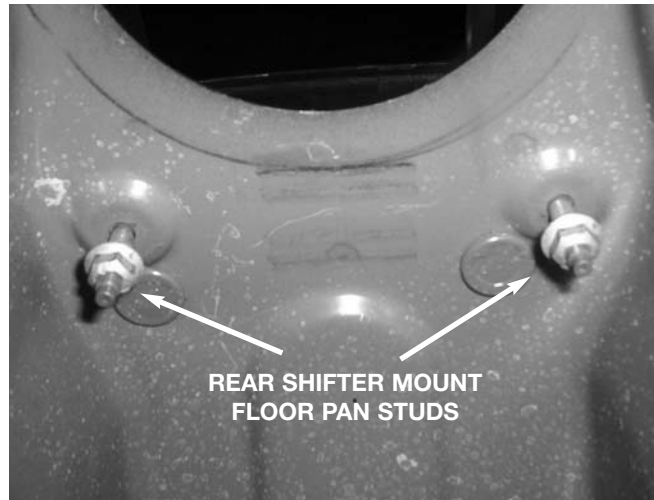

Figure 4
- Using a 10 mm wrench or deep well socket, remove the two (2) hex nuts that secure the rear mount of the shifter assembly to the floor pan and set aside (see fig.4).